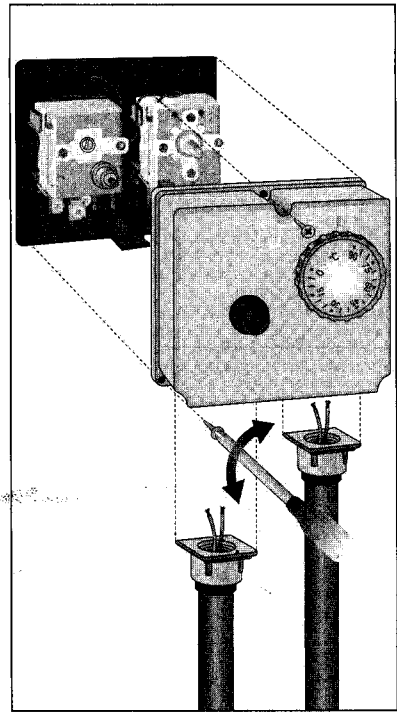
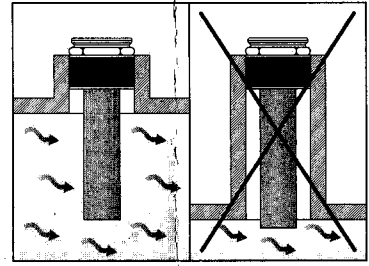

fig.5 - Abb.5
fig.6 - Abb.6
- B) Remove the thermostat front cover by releasing the three provided screws. Thread the power supply wires in the relevant fairlead and connect them to the thermostat terminals (fig.5) according to the instructions of the following paragraph "Wiring Connections". Snap the front cover back. NOTE: See fig.6.